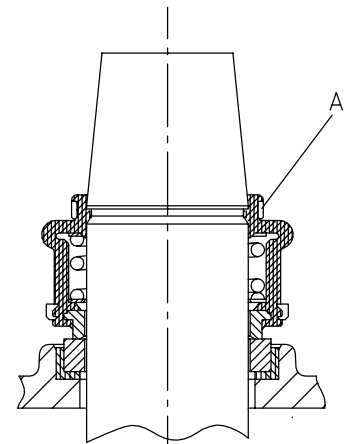

Fig. 8
b) Rubber-bellows seal, internal spring - type "M" (Fig. 8)